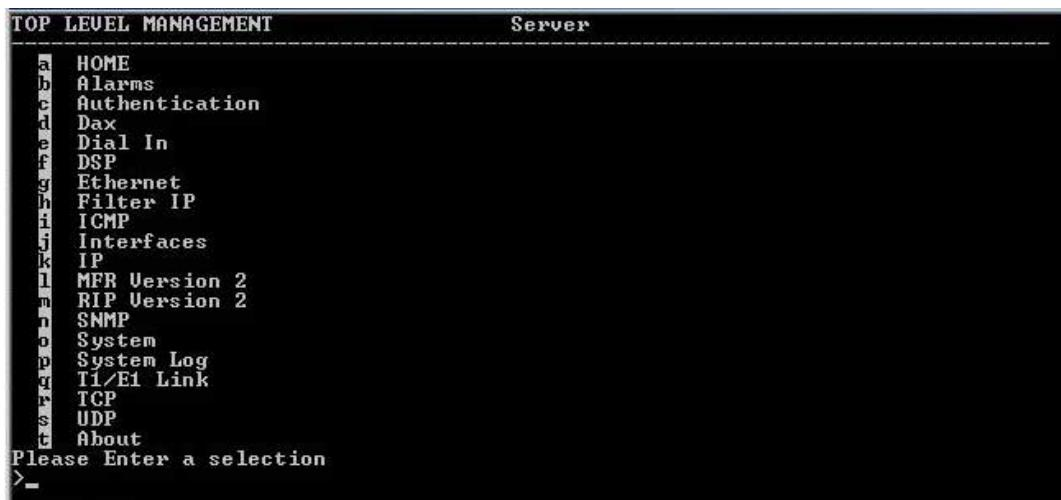

Figure 16. VT-100 Top Level Management window
5. Type **superuser** as the default username and password, then press <RETURN>. The *Top Level Management* window displays (see figure 16).